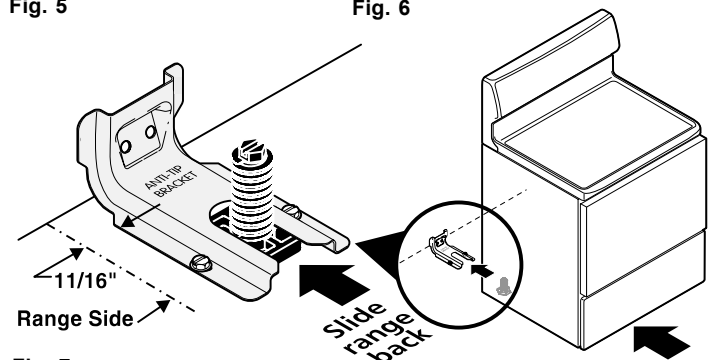

Fig. 7
**1c. Level and Position Range** - Level range by adjusting the (4) leveling legs with a wrench. NOTE: A minimum clearance of 1/8" is required between the bottom of the range and the leveling leg to allow room for the bracket. Use a spirit level to check your adjustments. Slide range back into position (See Fig. 7).
Carefully slide range into final position while inserting rear leveling leg into and FULLY ENGAGING THE ANTI-TIP BRACKET (See Fig. 7). Make sure the power cord folds into the remaining open floor area behind the range Warmer or storage drawer. Be sure to check the level of the range.